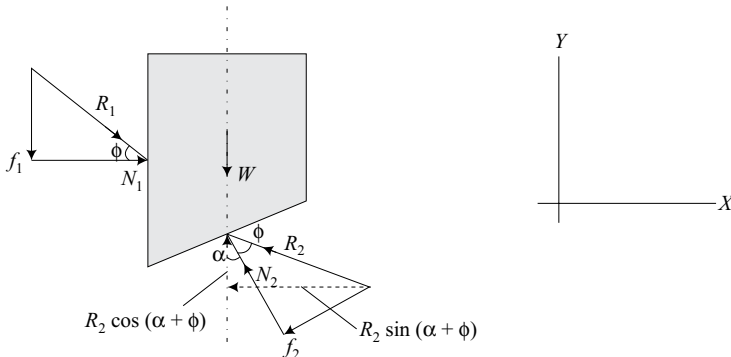

Fig. 2.16 FBD of block
1. Draw free body diagram of block (Fig. 2.16). The frictional force f_1 , between block and wall will act downwards to oppose the motion of block moving upwards. The frictional force f_2 , between block and wedge will act downwards of inclined plane of block to oppose the motion. The reactions N_1 and N_2 will act normal to the supporting surface. R_1 and R_2 are the resultants of N_1, f_1 and N_2, f_2 respectively. ϕ is the angle of limiting friction.
- Draw free body diagram for block (Fig. 2.16), and apply equilibrium conditions.